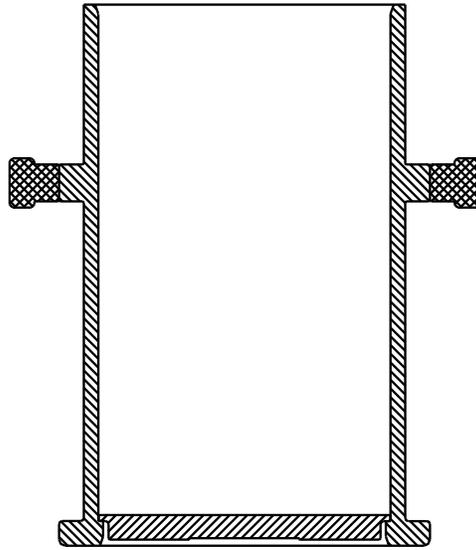
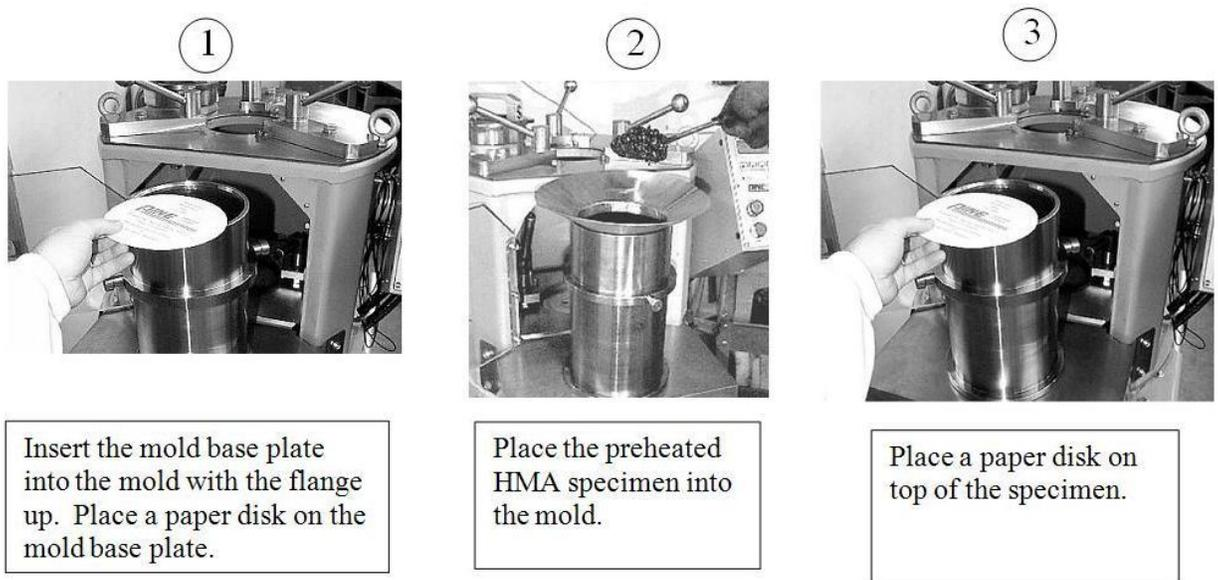

Figure 4.1: Mold Assembly
Figure 4.2: Mold Preparation
Clean the mold, mold base and mold top. A clean mold assembly is essential for repeatable results. Preheat the mold and mold base plate. The mold base plate is usually preheated in the mold. Note the correct orientation of the mold base flange is up (Figure 4.1). The mold top does not require preheating, although it is possible to preheat the mold top in the oven or with a hot plate if desired. The preheat temperature is usually 150° Celsius (300° Fahrenheit). Consult the specific test procedure being followed for exact instructions on proper preparation and aging of the specimen. Place the preheated mold with its base plate on the compactor work surface. Next, place a paper disk into the mold on top of the base plate. Load the loose, properly prepared HMA specimen into the mold. Place a paper disk on top of the specimen (Figure 4.2).
- ① Prepare the mold (see Figure 4.2).
- ② Insert the mold into the compaction chamber.